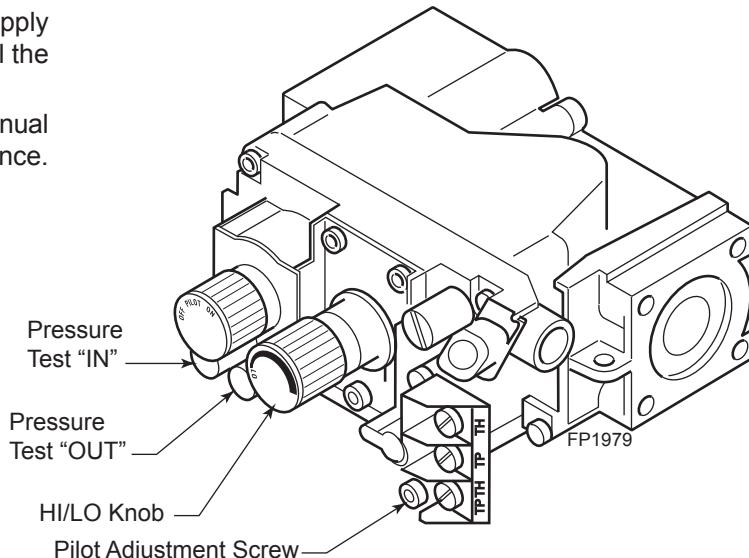

Figure 47 -
5. To check gas pressures at valve, turn captured screw counter clockwise 2 or 3 turns and then place tubing to pressure gauge over test point. Turn unit to high. *Figure 47.* After taking pressure reading, be sure and turn captured screw clockwise firmly to reseal. Do not over torque. Check test points for gas leaks.